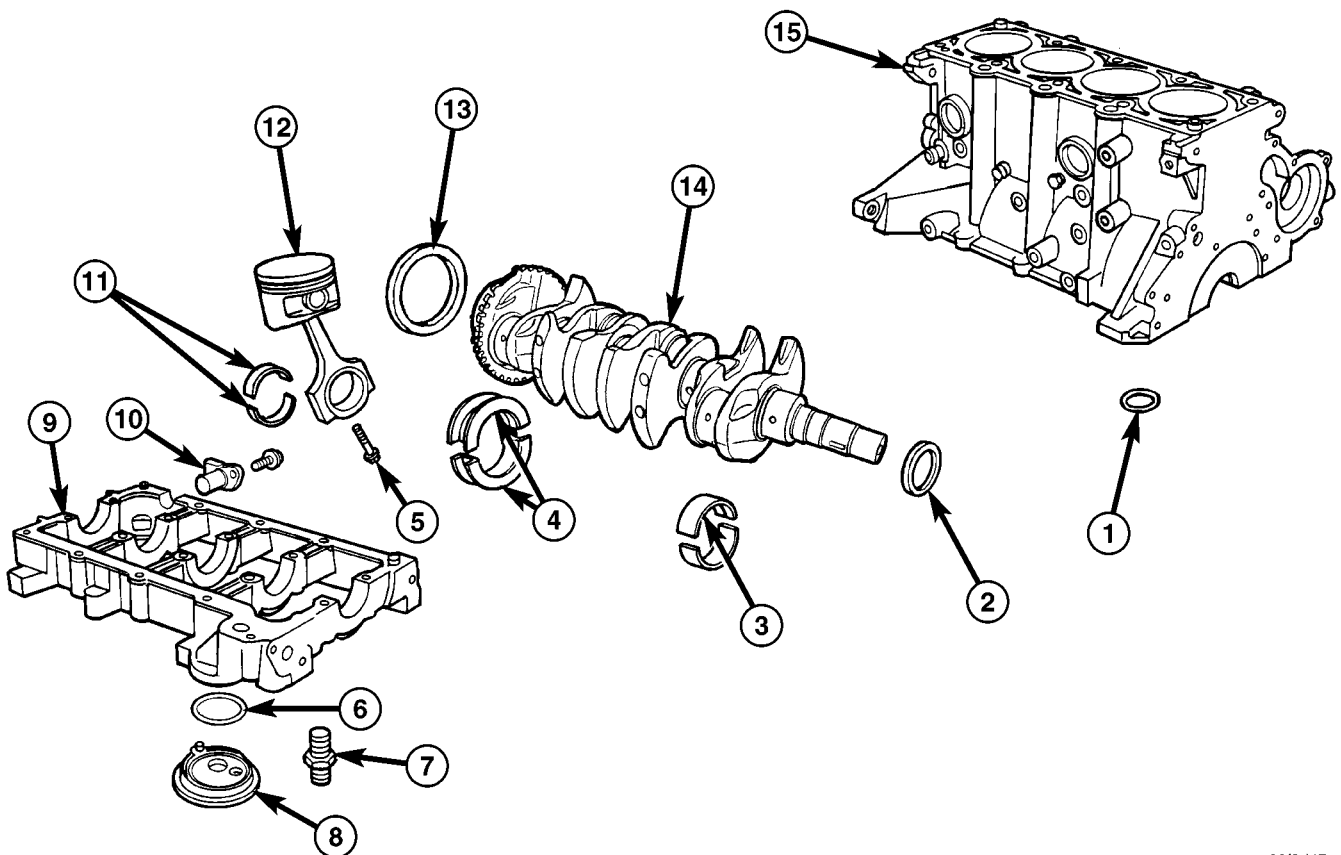

Fig. 54 Engine Block and Components
(21) Install oil pump (Refer to 9 - ENGINE/LUBRICATION/OIL PUMP - INSTALLATION).
(22) Install oil pump pick-up tube. Torque fastener to 23 N·m (200 in. lbs.).
(23) Install the oil pan (Refer to 9 - ENGINE/LUBRICATION/OIL PAN - INSTALLATION).
(24) Install oil filter adapter and oil filter (Fig. 54) (Refer to 9 - ENGINE/LUBRICATION/OIL FILTER ADAPTER - INSTALLATION).
(25) Install rear timing belt cover and camshaft sprocket (Refer to 9 - ENGINE/VALVE TIMING/TIMING BELT COVER(S) - INSTALLATION).
(26) Install front crankshaft oil seal and crankshaft sprocket (Refer to 9 - ENGINE/ENGINE BLOCK/CRANKSHAFT OIL SEAL - FRONT - INSTALLATION).
(27) Install the timing belt tensioner and pulley bracket (Refer to 9 - ENGINE/VALVE TIMING/TIMING BELT TENSIONER & PULLEY - INSTALLATION).
(28) Install the timing belt, front engine mount bracket, and front timing belt cover (Refer to 9 - ENGINE/VALVE TIMING/TIMING BELT AND SPROCKETS - INSTALLATION).
(29) Install crankshaft vibration damper (Refer to 9 - ENGINE/ENGINE BLOCK/VIBRATION DAMPER - INSTALLATION).